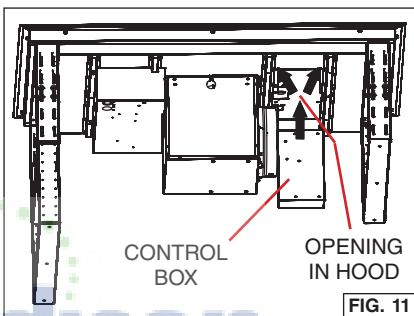

FIG. 11
2. Insert control box into opening. Fig. 11.